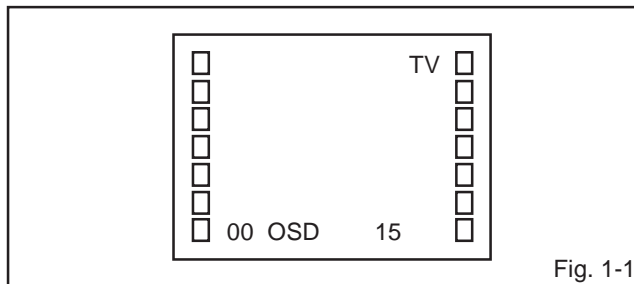

Fig. 1-1
2. Press the VOL. DOWN button on the set and the Channel button **(9)** on the remote control simultaneously to appear the adjustment mode on the screen as shown in **Fig. 1-1**.
3. Activate the adjustment mode display of **Fig. 1-1** and press the channel button **(03)** on the remote control to select "VIF VCO".
3. Activate the adjustment mode display of **Fig. 1-1** and press the channel button (**02**) on the remote control to select "RF DELAY".
4. Activate the adjustment mode display of **Fig. 1-1** and press the channel button (**01**) on the remote control to select "CUT OFF".
4. Activate the adjustment mode display of **Fig. 1-1** and press the channel button (**10**) on the remote control to select "R.BIAS".
3. Activate the adjustment mode display of **Fig. 1-1** and press the channel button (**13**) on the remote control to select "BRIGHTNESS".
2. Activate the adjustment mode display of **Fig. 1-1** and press the channel button (**05**) on the remote control to select "H PHASE".
3. Activate the adjustment mode display of **Fig. 1-1** and press the channel button (**07**) on the remote control to select "V SHIFT".
2. Activate the adjustment mode display of **Fig. 1-1** and press the channel button (**06**) on the remote control to select "V SIZE".
1. Activate the adjustment mode display of **Fig. 1-1** and press the channel button (**14**) on the remote control to select "CONTRAST".